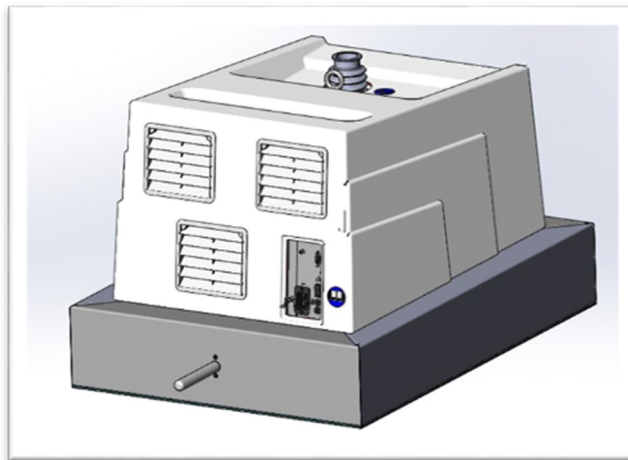

Figure 5 MS120 pump with Noise Abatement System
- 5 Install the Noise Abatement Panel, Back under the pump, as shown in figure 5: